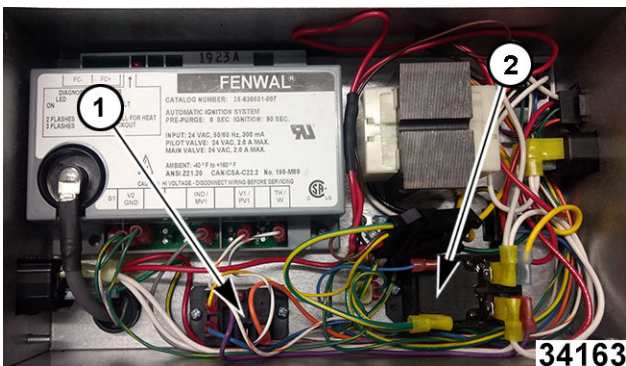

Fig. 81
3. Identify which relay - oil return solenoid relay (1, Fig. 81) or pump relay (2, Fig. 81) - needs to be replaced.